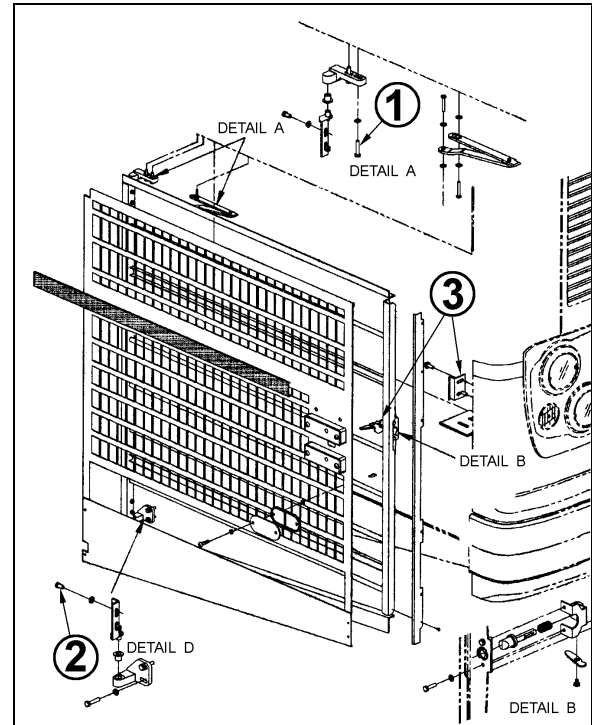

FIGURE 101: RADIATOR DOOR
1. Loosen the bolts, (1, Fig. 101) holding the hinge to the vehicle structure to shift the door "IN or OUT" and "UP or DOWN".
2. Loosening the bolts (2, Fig. 101) allows the door to be shifted "LEFT or RIGHT" and "UP or DOWN".
To adjust the latch mechanism (3, Fig. 101) and the striker pin: